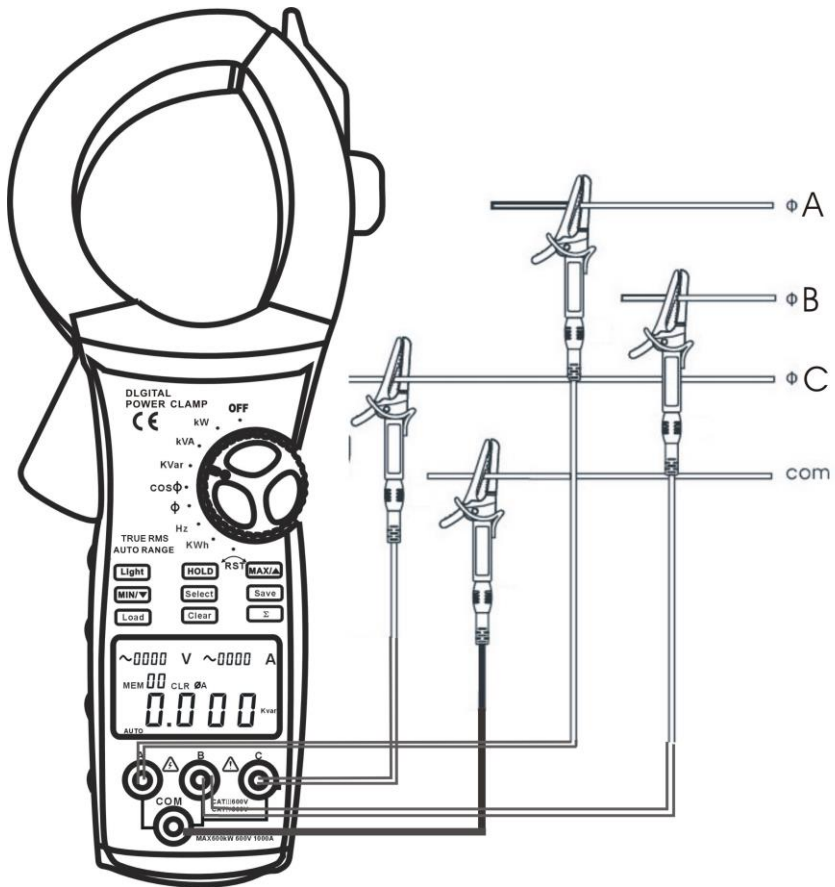

figure 6
3. Connecting method (see figure 6, 7, 8):
● When measuring 3 phase 4 wires, connect the Meter as figure 6.
3. The connecting method of 3 phases 4 wires, 3 phases 3 wires or single phase 2 wires, see figure 6, 7 and 8